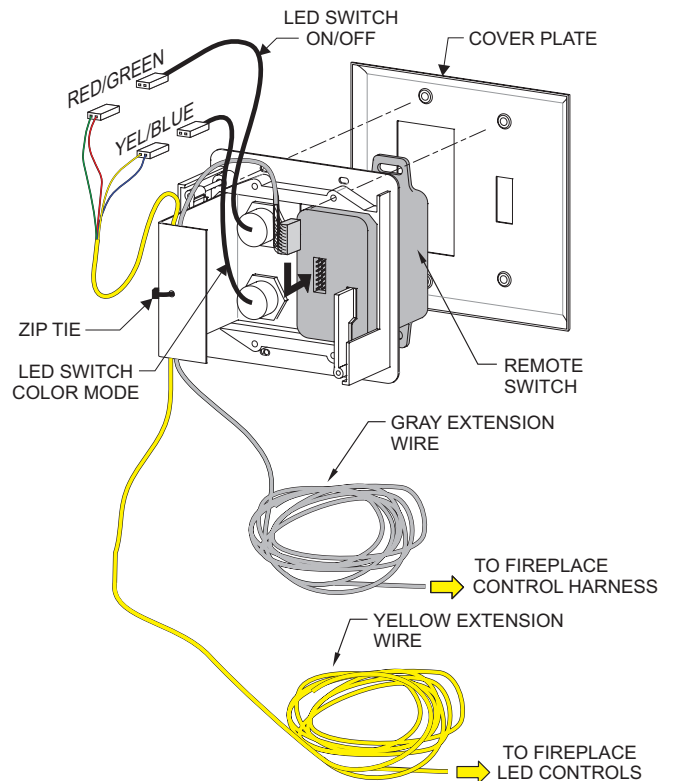

Figure 35
14. Route the yellow LED wire harness with gray remote receiver harness through the bushing. Mount the controls and connect the wiring. Secure wiring with provided zip tie as shown. **See Figure 35.**